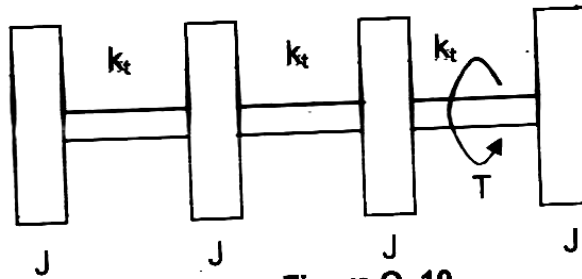

Figure Q. 10
10. Determine the natural frequencies for the system shown in Fig.Q.10 by using Holzer's method. 20